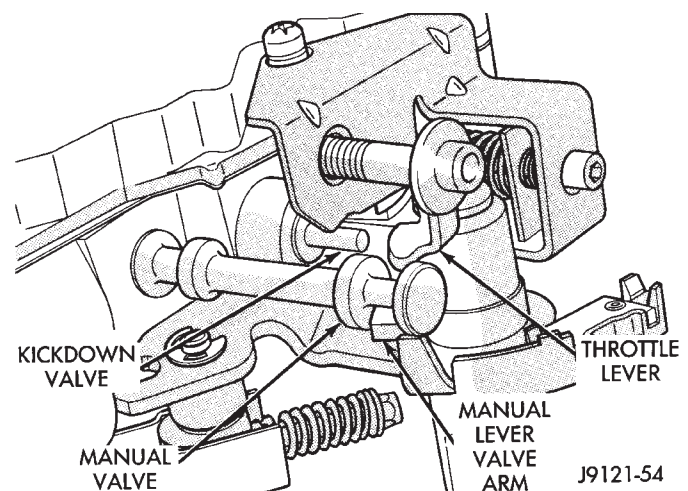

Fig. 67 Manual Valve And Throttle Lever Alignment
(43) Insert throttle lever into groove in manual valve (Fig. 67).